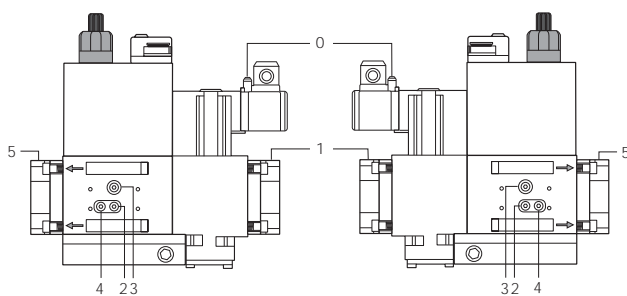
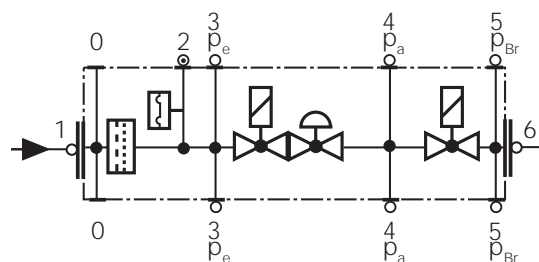

Fig. 32
Fig. 33
- Check and clean the gas filter cartridge (see Fig. 32), replace it if necessary;
- Change the filter if the pressure difference between pressure connection 1 and 2 (Fig. 32-Fig. 33) $\Delta p > 10$ mbar.
- Change the filter if the pressure difference between pressure connection 1 and 2 (Fig. 32-Fig. 33) is twice as high compared to the last check.